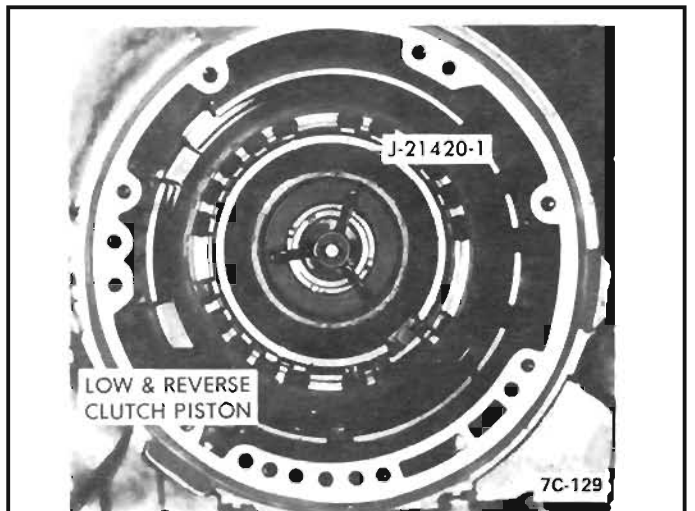

Figure 80 Low and Reverse Piston Snap Ring
3. Install low and reverse clutch piston assembly with notch in piston installed adjacent to parking pawl. *See Figure 80.*
5. Using tool J-21420-1 compress return seat so spring retainer retaining ring may be installed with snap ring pliers. *See Figure 80.*